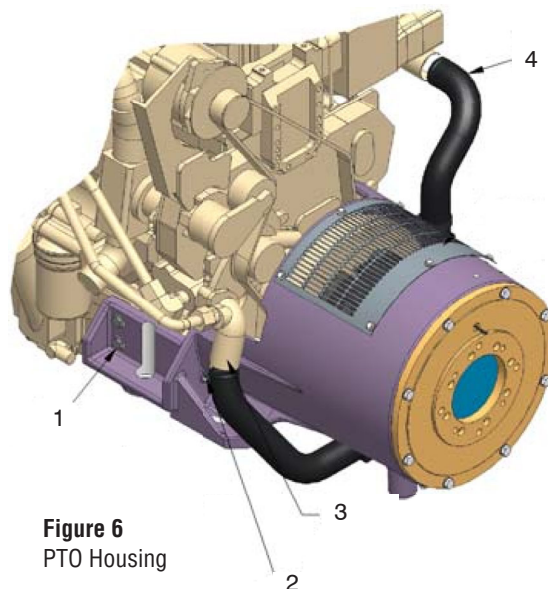

Figure 6
- 4.9 Fasten the lower portion of the PTO housing (070-0032) to the engine block using 4 screws (063-0047) and 2 screws (047-0342) to the torque specifications shown in figure 6, items 1 and 2.
4.10 Position the coolant tube (931-0001 or 931-0020) as shown in Figure 6. Connect the coolant tube to the existing hose on the engine using the existing hose clamps.